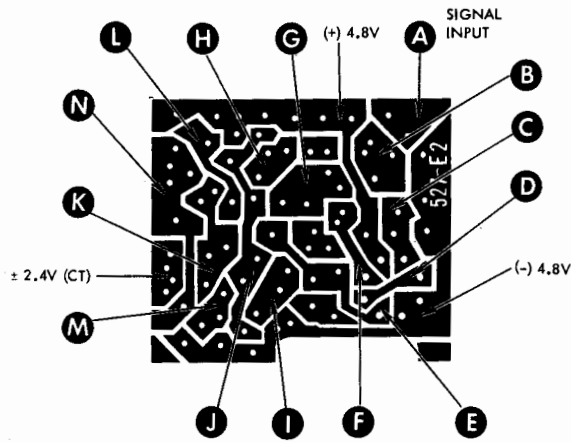

Figure 9. Test Point Locations
- 57. Using an eye loupe, carefully inspect board, top and bottom. Check for shorted leads, parts touching each other, shorted lands, solder across lands, correct wire placement, etc. Sometimes solder shorts are hard to find. Compare back side of board with land diagram, figure 9. Remove all defects found. Put board assembly aside until later.
a. Use a voltmeter to check for correct voltages on back side of servo boards. See figure 9 for voltage test points.